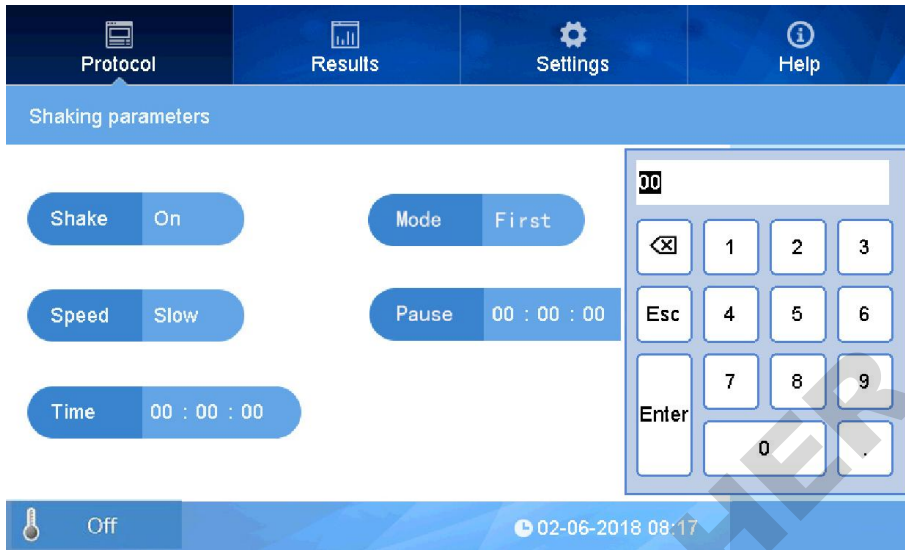

fig 25
- Click button right beside “Time” to set time, input numbers to set hour/minute/second(Fig 25).